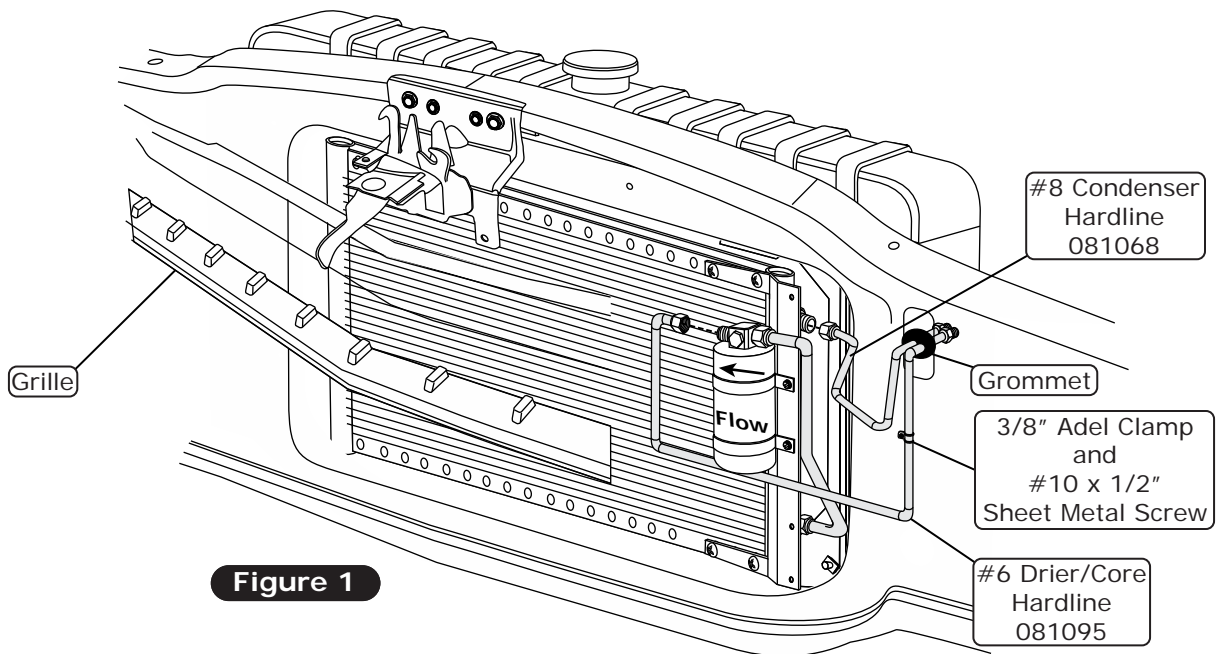

Figure 1
3. Secure the #6 drier/core hardline onto the core support with a 3/8" Adel clamp and a #10 x 1/2" sheet metal screw as shown in Figure 1, below.